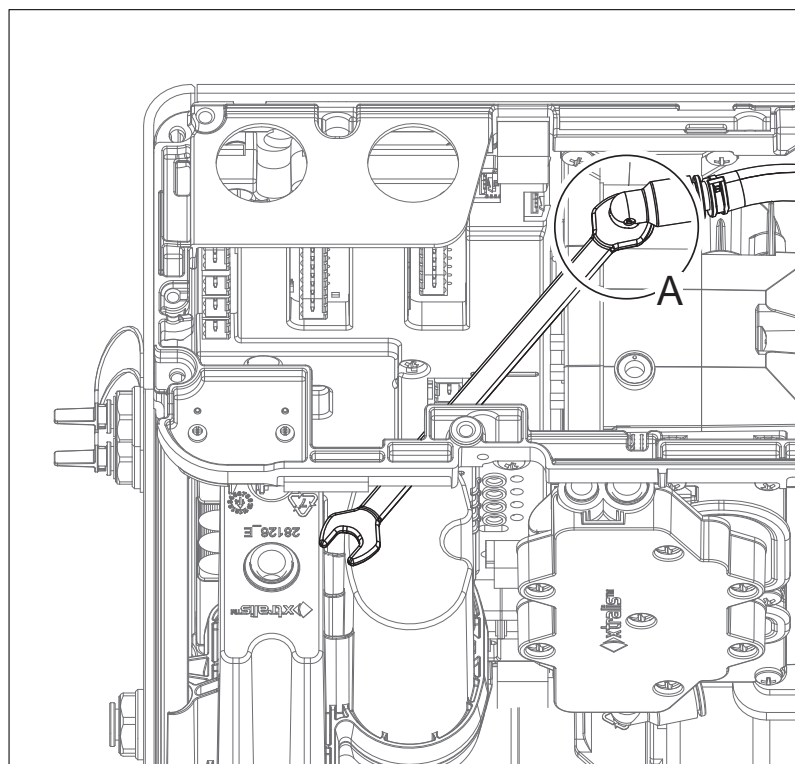

Figure 7-30: Disconnect pipe
8. Disconnect the pipe (A) at the junction with the Smoke Sensor Module (Figure 7-30).